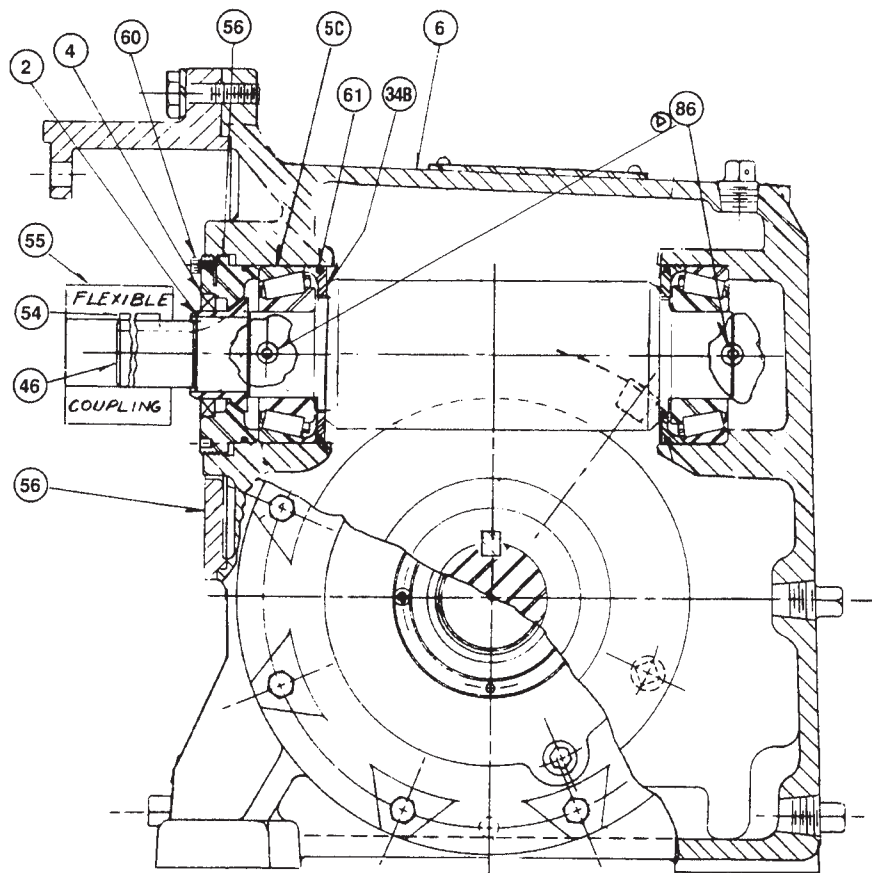

Figure 1
## INSTRUCTIONS FOR THE DISASSEMBLY AND REASSEMBLY OF SIZE 40 XL SINGLE REDUCTION GEARMOTORS AND C-FACE REDUCERS (Refer to Figures 1 & 2)
3. Remove screws holding the bearing housing (8), tap housing to loosen at the gasketed joint, then remove from the gearcase (6).
4. Lift out the output shaft (17) which includes the bronze worm gear.
5. To remove input shaft assembly (46) loosen the bearing cap locking screw (60) (Fig. 1), install face type spanner tool in the two pin holes in the face of the oil seal bearing cap assembly (56) and unscrew counter-clockwise and remove. Pull input shaft assembly including bearings (5C) and grease retainer (34B) with 'O' ring (61) from gearcase.
1. Press a new seal sleeve (2) on the input shaft. Some sealer should first be applied to the shaft at the sleeve location. Do not use so much that it gets on the sleeve OD or lip seal as this will result in seal leakage.
2. Before installing the input shaft, remove the grease pipe plugs (86) and pack the roller bearings and bearing bore with standard ball bearing grease, such as Shell Alvania #2 or equivalent. Install input shaft (46) into the gearcase, then pack the front bearing with standard grease as above, then screw the oil seal bearing cap assembly (56) in place and adjust for proper end play. Reinstall grease plugs.
clearance screw the cap clockwise until bearings have zero clearance. Draw a pencil line in vertical position across the face of the cap and the gearcase; then back off the cap counterclockwise and measure between the mark; turn cap  $1\frac{1}{2}$  to  $1\frac{5}{8}$  inches counterclockwise; (.003" to .005" end play) and retighten bearing cap lock screw (60) (Fig. 1) to 75 inch lbs.
3. Press a new seal sleeve on the output shaft (17). However, first apply some sealer to the sleeve location.
4. Reassemble by installing the closed bearing housing (45) with gasket, then insert the output shaft assembly (17) into the gearcase. Install open bearing housing (8) with gasket.